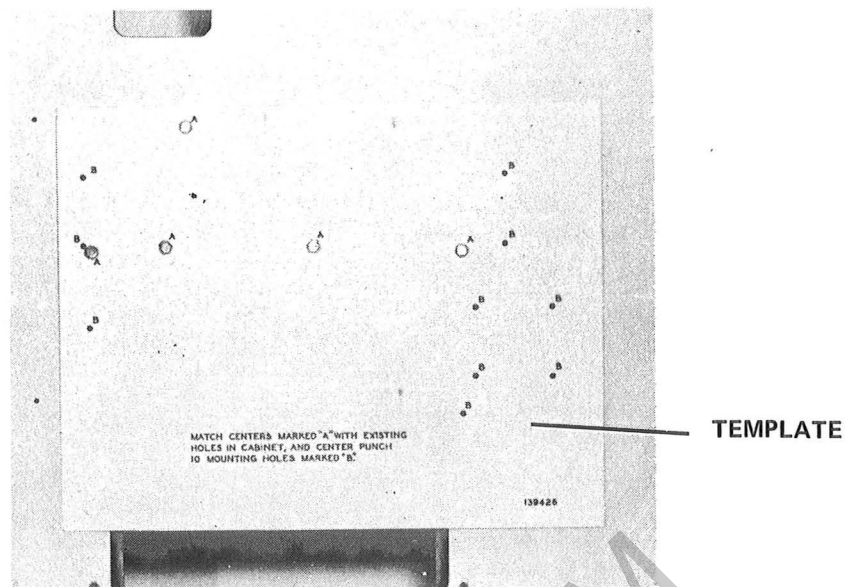

Figure 2.
14. Position Template, Part No. 139426, on right hand of Phonograph Cabinet and match centers marked "A" to existing holes in Cabinet. Secure Template to Cabinet using five screws as shown in Figure 2.